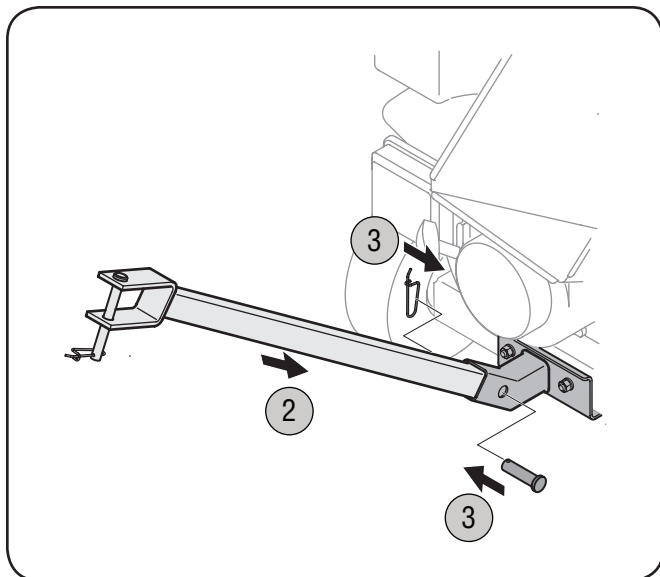

Figure 3-4
3. Reinsert the clevis pin through the aligning holes in both the tongue and the base. Fasten with the spring pin to secure. See Fig. 3-4.